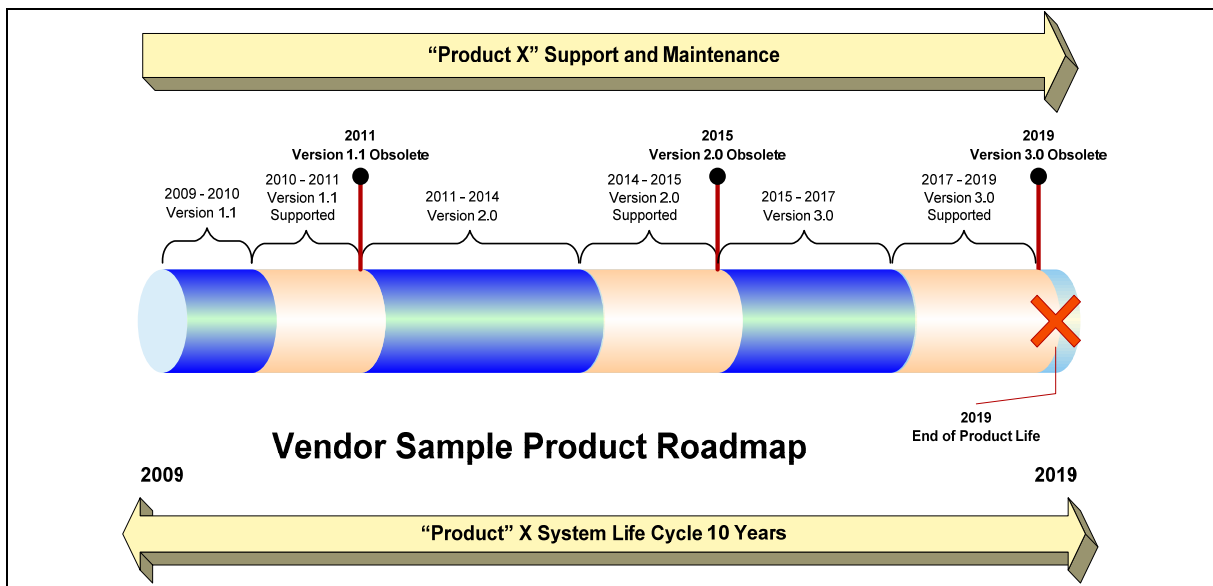

Figure 3 – Vendor Sample Product Roadmap
- Manufacturer's expectation of the time during which the system will be operational—in other words, its "useful life." Vendors often refer to this as a vendor "roadmap" (Figure 3). It is important to pay special attention to when a system is scheduled for support and when its "end of life" occurs. These two factors affect decisions to upgrade/replace the system and also have a dramatic impact on the system timeline.